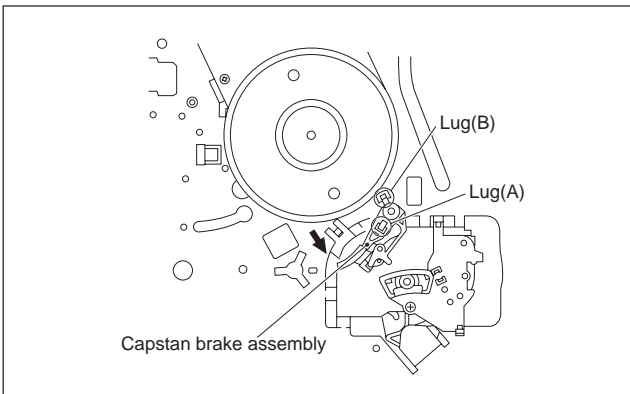

Fig.3-2-18a
- (1) Move the lug (A) of the capstan brake assembly in the arrow-indicated direction so that it comes into alignment with the notch of the main deck. (See Fig. 3-2-18a.)
- (2) Remove the lug (B) of the capstan brake assembly from the main deck and remove the capstan brake assembly.